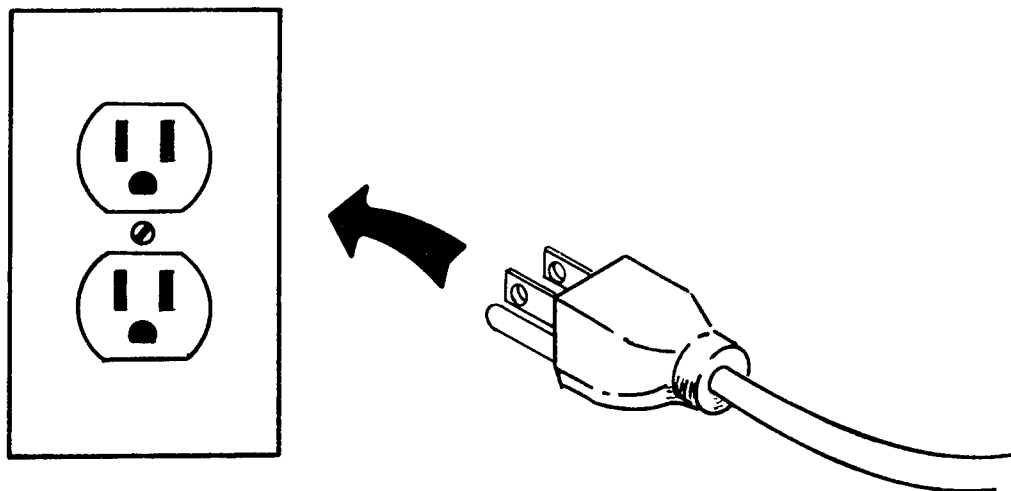

Figure 40. Plug Power Cord Into Power Source
- d. Plug the power cord into a power source (see Figure 40).